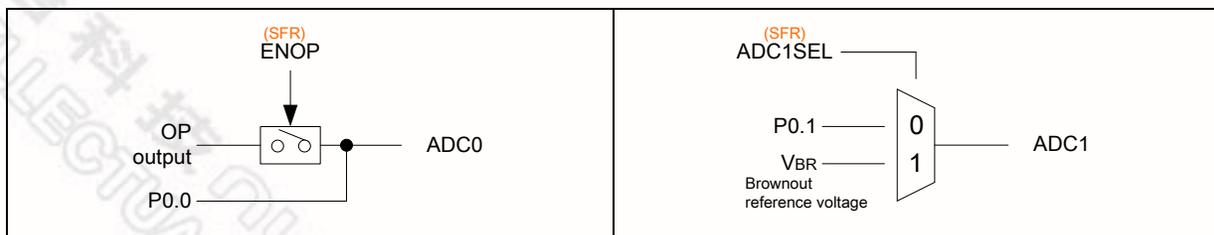

Figure 26-3: ADC0 and ADC1 source selections.
- The ADC0 alternative input source will come from OP Amplifier output when AUXR2.ENOP bit is enabled. See section OP Amplifier for detail. User is recommended to set SFR PADIDS.0 to disable digital input when enable ENOP. See Figure 26-3 for ADC0 and ADC1 source selection.